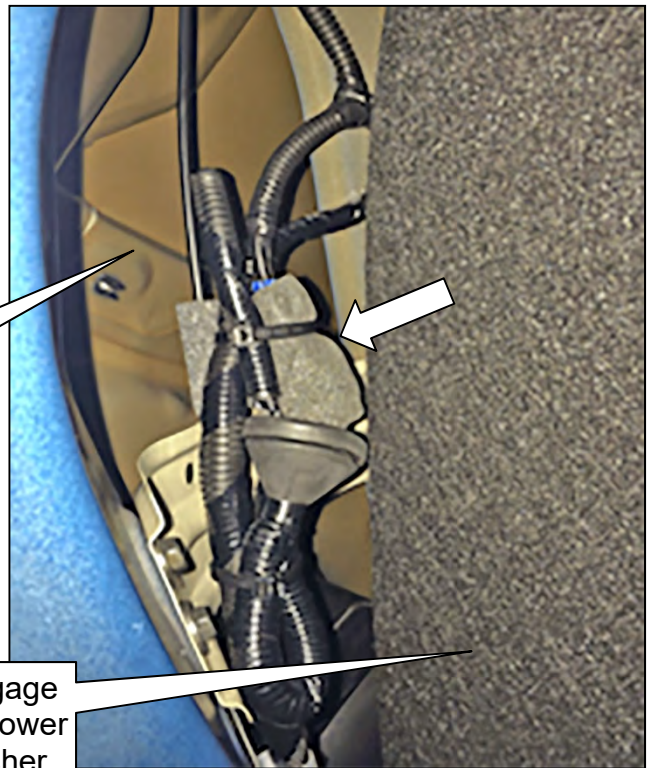

Figure 13
17. Locate the foam wrapped harness connector shown in Figure 13.